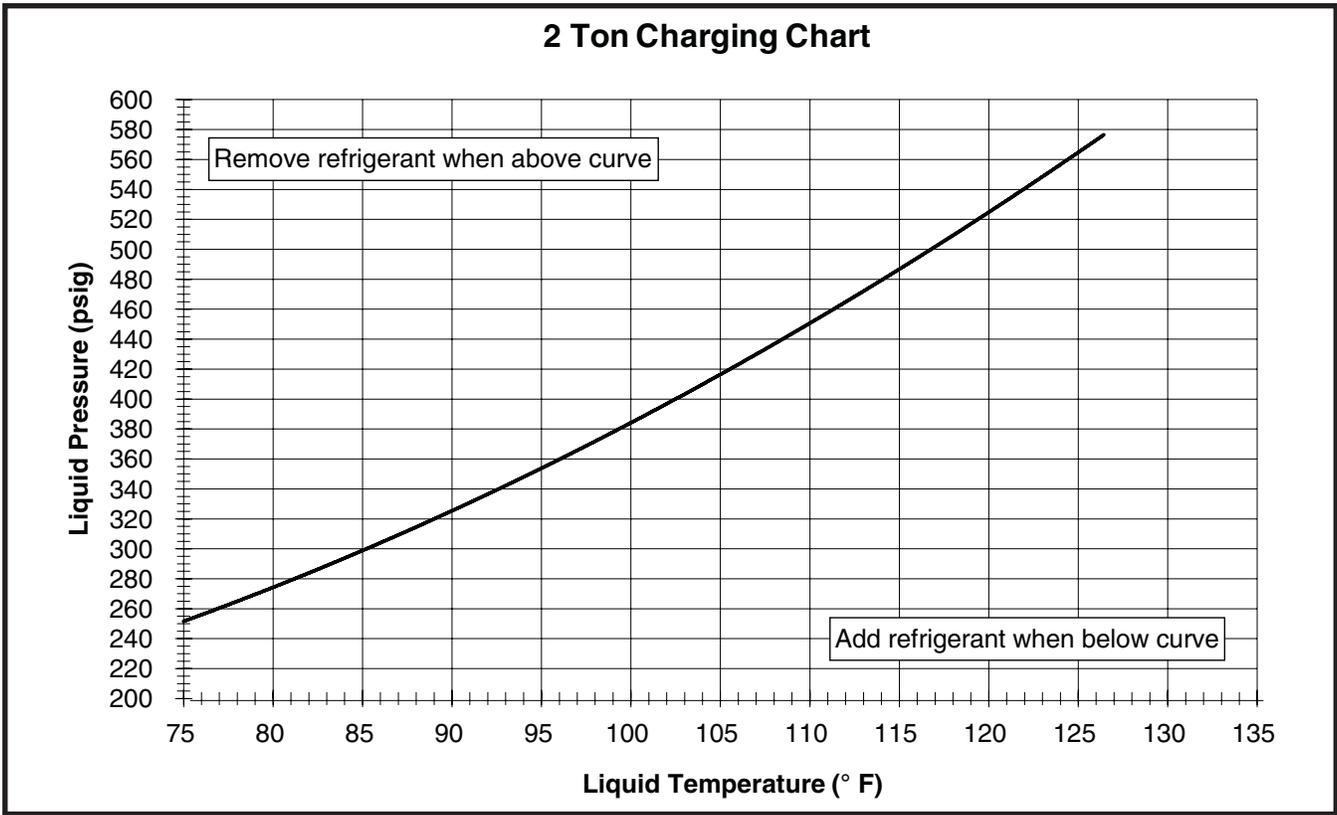
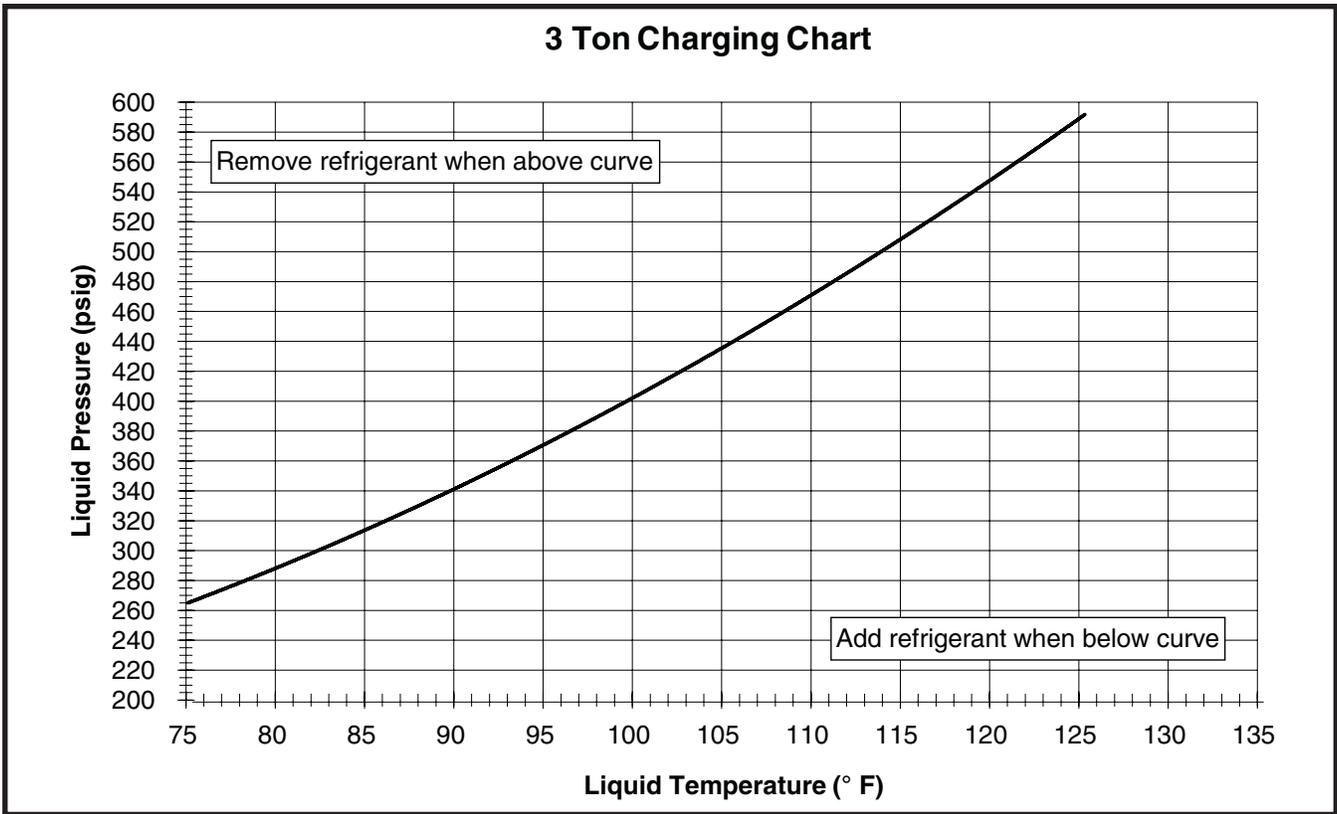
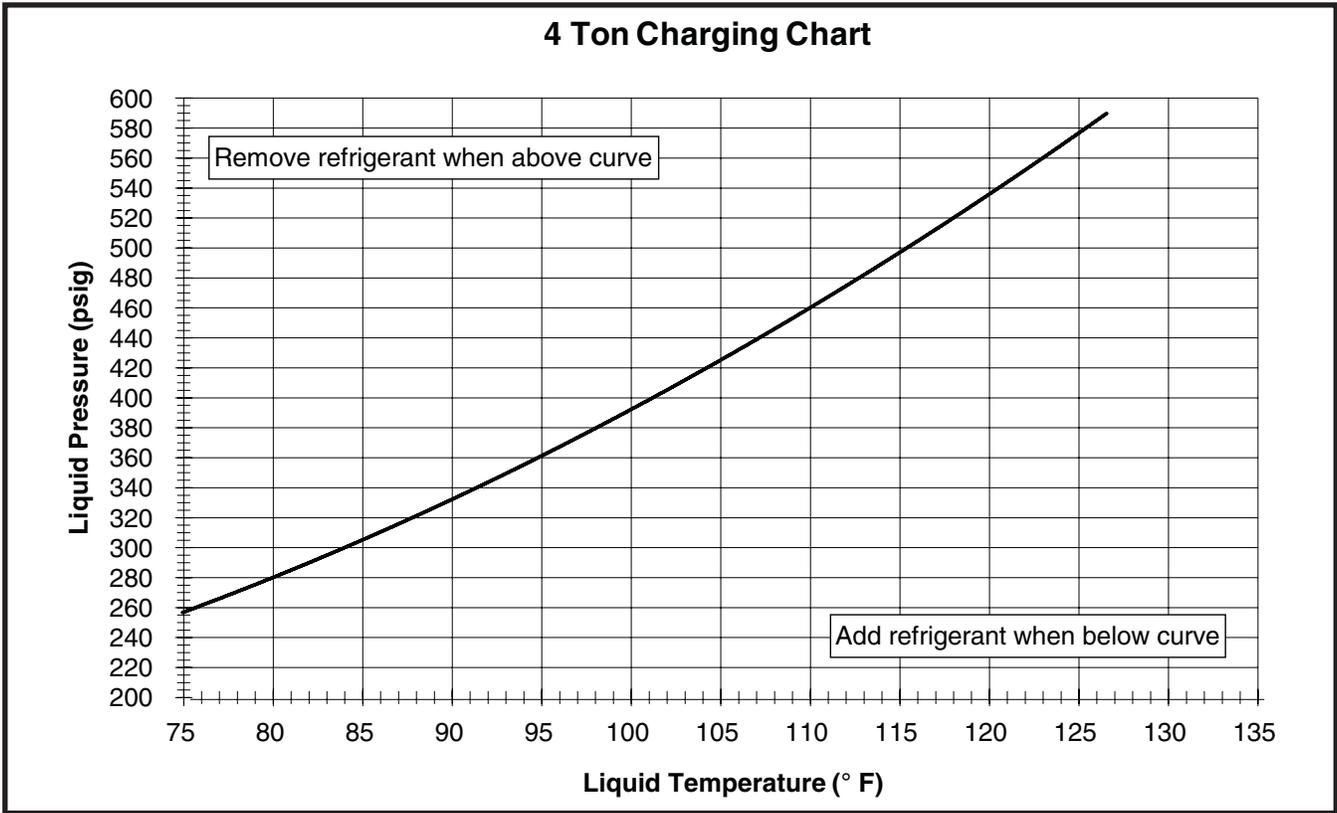

Figure 6. Charging Chart for 2 ton Units
Figure 7. Charging Chart for 3 ton Units
Figure 8. Charging Chart for 4 ton Units
3. For the temperature measured, determine the required liquid refrigerant pressure from your units label or charging charts: Figure 6 \(page 10\), Figure 7 \(page 10\), Figure 8 \(page 11\), and Figure 9 \(page 11\).